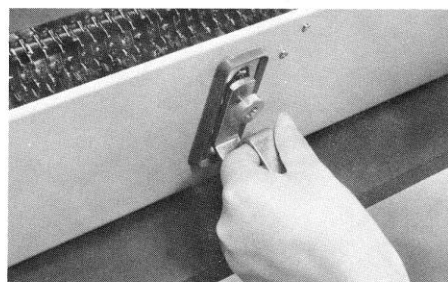

Fig.8
4. Fit clamps in position at base of the machine and clamp the machine to the table edge. (Figs.8 & 9)